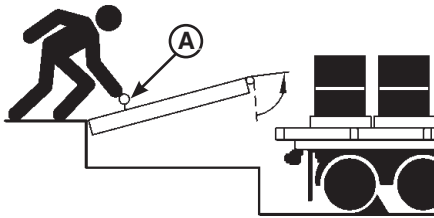

Figure 12
4. Raise the platform by pulling and holding the platform release ring (A) (Figure 12).